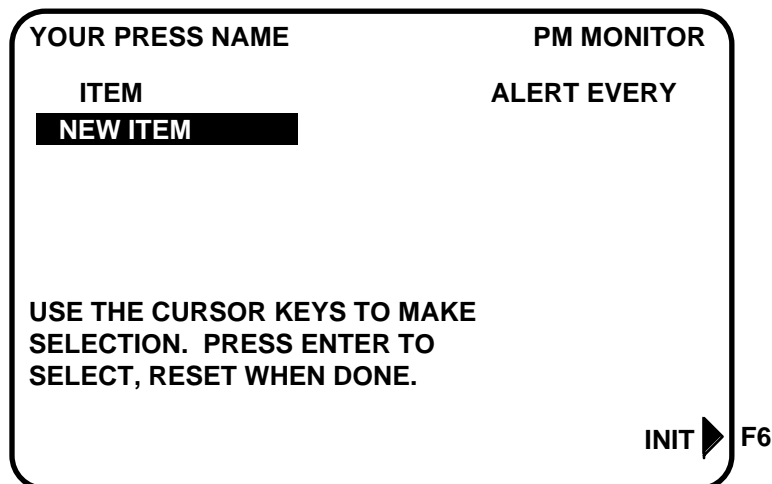

Figure C-4. PM entry screen
1. Go to the "PM Entry" screen (Figure C-4). Press F6 "Init".